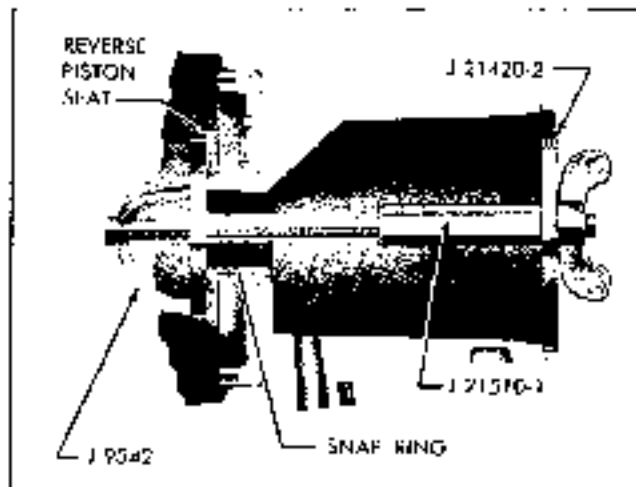

Fig. 7F-87 Compressing Reverse Piston Return Springs
4. Compress reverse piston return springs, using spring compressor J 9542 and adapters until snap ring groove is exposed (Fig. 7F-87). Install snap ring and remove tool.